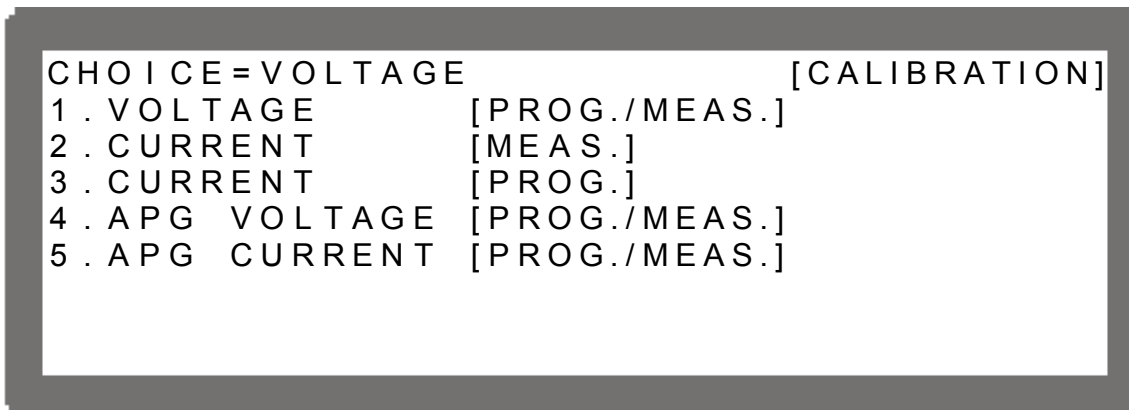

Figure 3-97
3. Enter the password and press “” to confirm. The screen will display 4 calibration options as Figure 3-97 shows. The calibration steps are described from section 3.3.7.1 to 3.3.7.5.
1. Enter into the page of Figure 3-97.